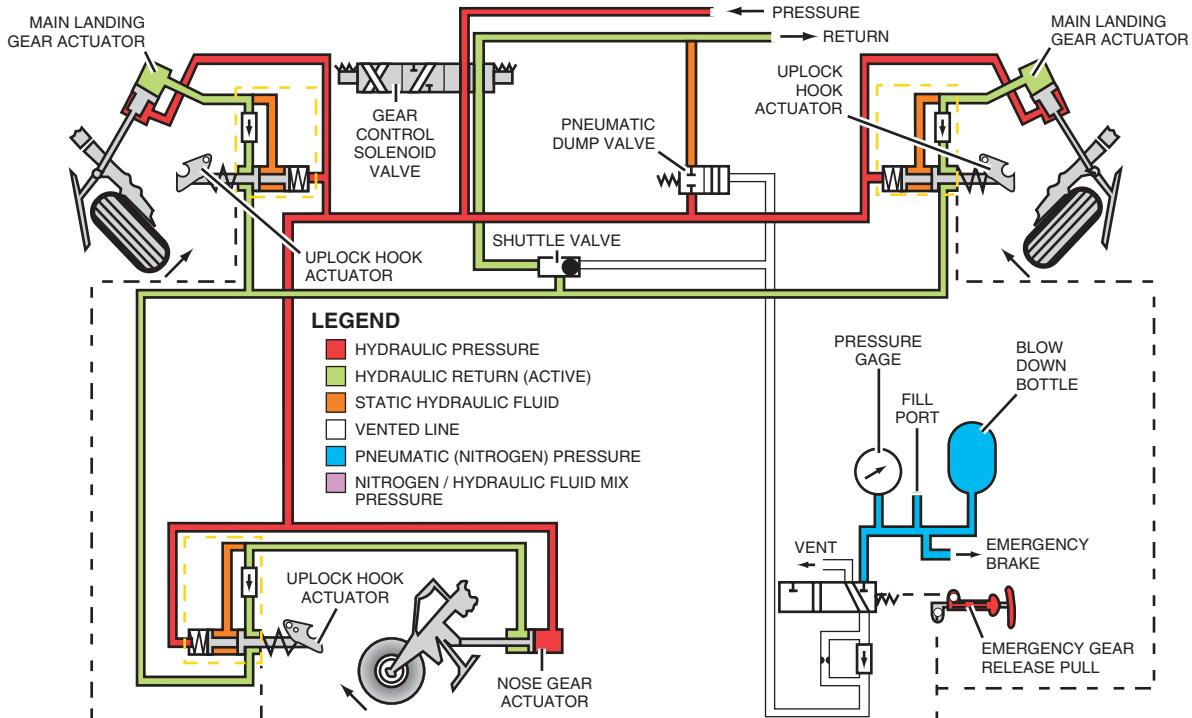

Figure SR-15 Landing Gear Retraction
- Normal or emergency DC power is required for hydraulic retraction and extension (Figure SR-15 and SR-16).